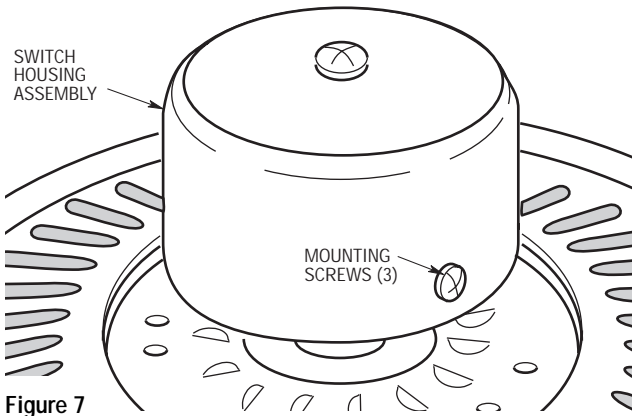

Figure 7
- 9. Remove the three switch housing mounting screws (Figure 6) from the switch housing plate. Position the switch housing assembly on the switch housing plate and align the holes in the switch housing assembly with the holes in the plate. Secure the switch housing assembly by installing the three screws (Figure 7).